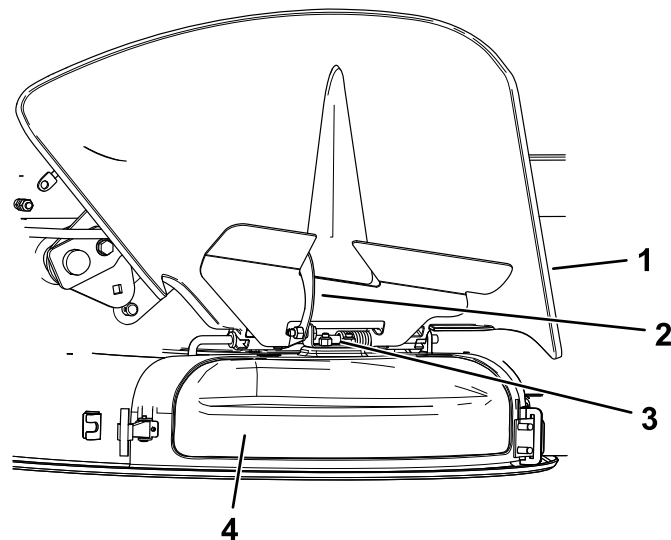

Figure 15
4. Release the hook-shaped latch on top of the discharge cover from the pivot rod (Figure 15).
5. On the top of the discharge cover, engage the hook-shaped latch around the pivot rod of the deflector assembly (Figure 15).